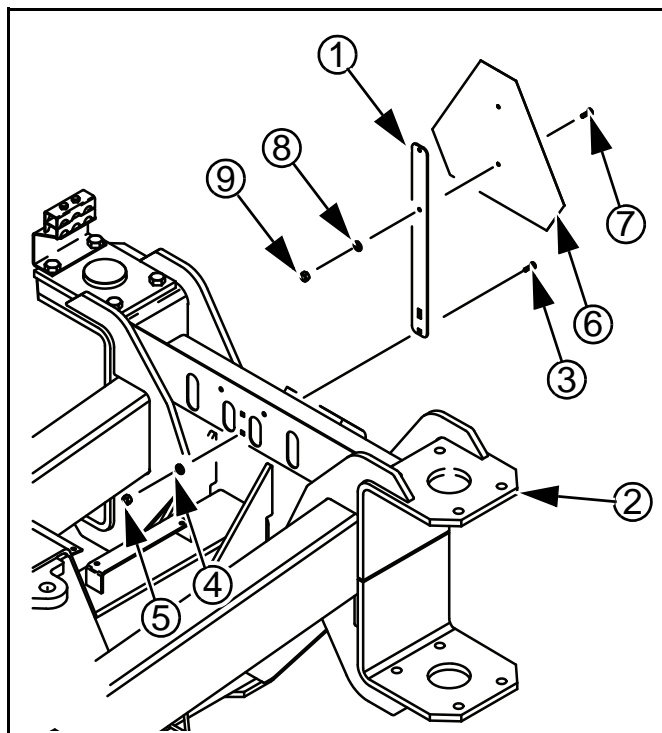

Figure 5
1. Install the blade (1) to the mainframe (2) as shown in Figure 5. Use two each of 5/16-18x3/4 RHSNB (3), spring lock washers (4), and 5/16-18 nuts (5).
2. Fasten the SMV plate (6) to the blade. Use two each 1/4-20x5/8 round head screws (7), spring lock washers (8), 1/4-20 nuts (9).